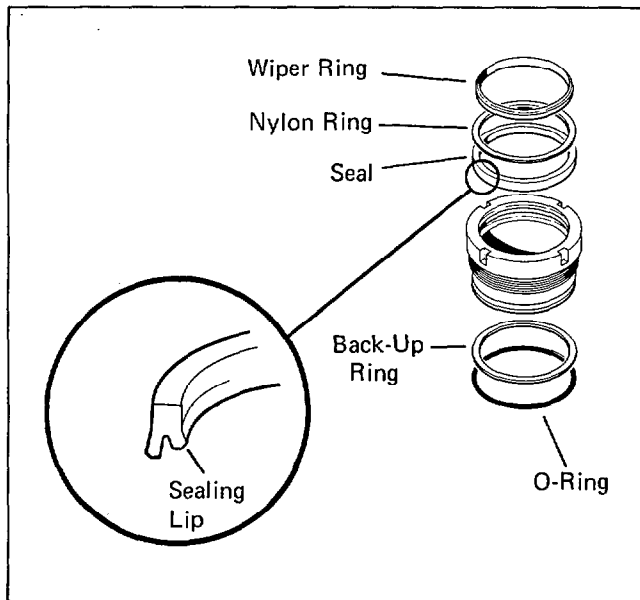

Figure 5-15 Inner Plunger Retainer
8. Place a new seal, nylon ring and wiper ring, in that order, in the inner plunger retainer's I.D. seal groove. The open end of the seal should face the threaded end of the retainer. See figure 5-15.